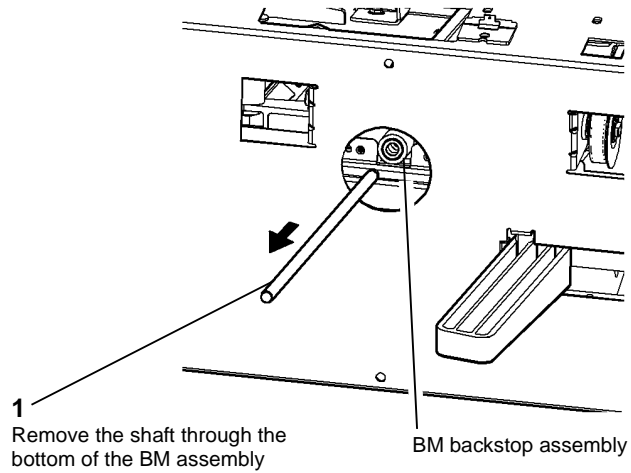

Figure 4 Remove the shaft
- Remove the shaft from the BM backstop assembly, Figure 4.